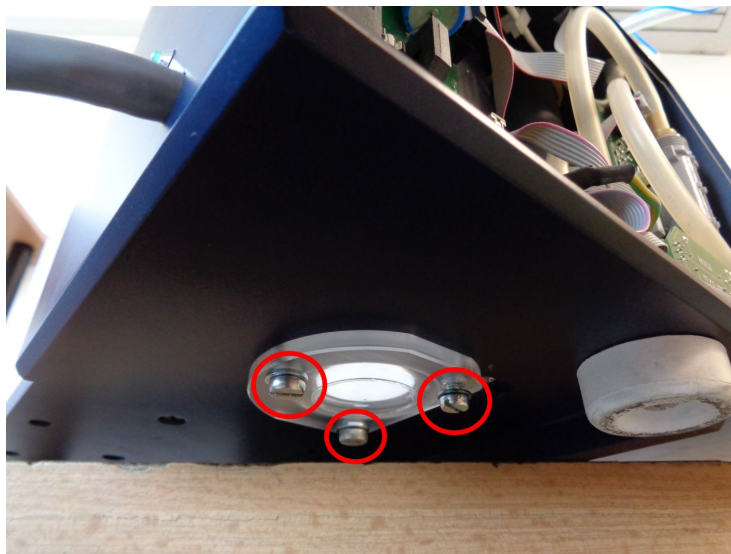

Figure 6: Pick-up unit from bottom
- Place pick-up unit on the edge of table to get access to screws from bottom. Unscrew three marked screws in Fig. 6 .